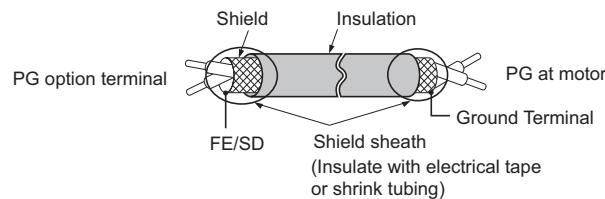
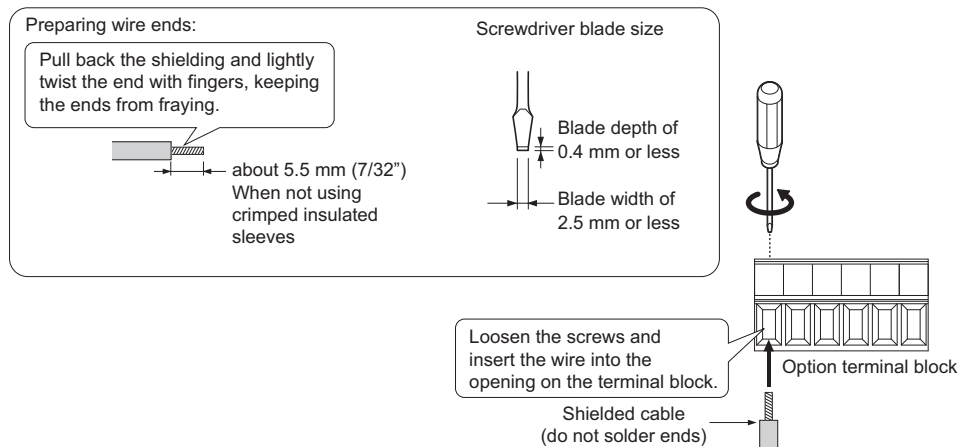

Figure 8.7 Preparing Ends of Shielded Cable
Figure 8.8 Preparing and Connecting Cable Wiring
2. There are two screw holes on the drive for use as ground terminals (H). When connecting three options, two ground wires will need to share the same drive ground terminal.
4. Prepare and connect the wire ends as shown in Figure 8.7 and Figure 8.8. Refer to Wire Gauges and Tightening Torques on page 432 to confirm that the proper tightening torque is applied to each terminal. Take particular precaution to ensure that each wire is properly connected and wire insulation is not accidentally pinched into electrical terminals.